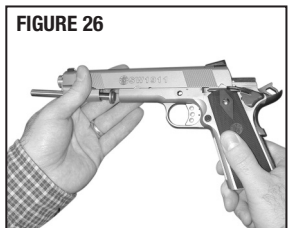

FIGURE 26
- Move the slide forward and off the frame (FIGURE 26).